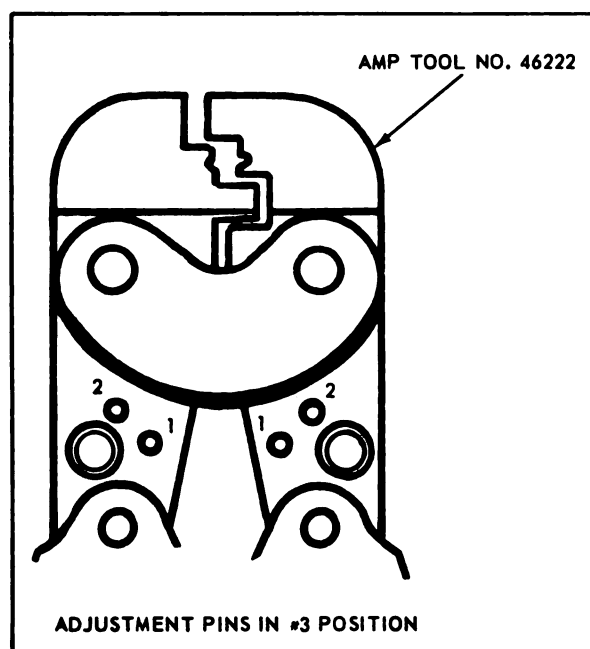

Figure 6-4. Crimping Tool Insulation Adjustment
c. Check insulation grip with both insulation crimping adjustment pins in the Number 3 position. See figure 6-4. Place taper pin in crimping jaws with unstripped wire inserted in insulation grip portion of taper pin. Crimp, then bend wire back and forth holding taper pin firmly. If wire pulls out, repeat test with pins in remaining positions until desired insulation grip is obtained.